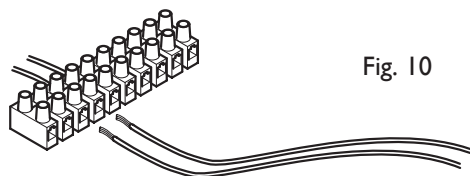

Fig. 10
11. Connect the Outdoor Sensor wiring to the terminals on the strip to which the brown wires are connected (Fig. 10).